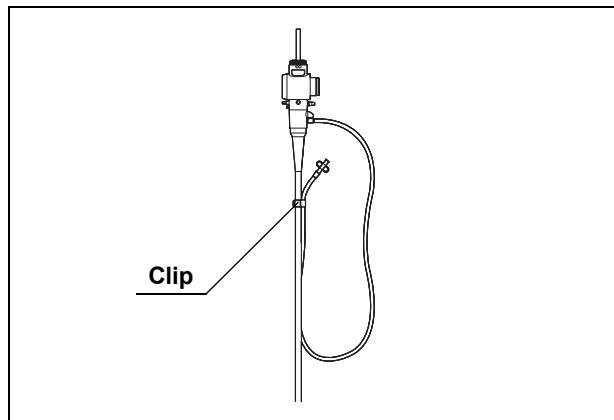

Figure 4.6
2. When carrying the endoscope with the auxiliary water tube connected to the auxiliary water inlet, attach the clip of the auxiliary water tube to the universal cord (for endoscopes with auxiliary water feeding only, see Figure 4.6).